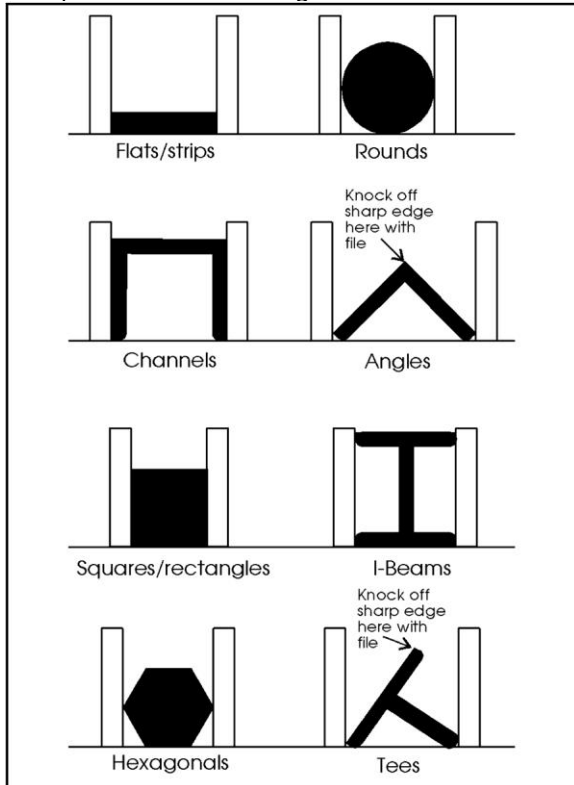

Figure 11: Clamping methods for various cross-sections of stock
The method for clamping different cross-section work pieces is shown in Figure 11.
2. Be certain you knock off the sharp corners of any work piece material which might damage the blade. See *Figure 11*.